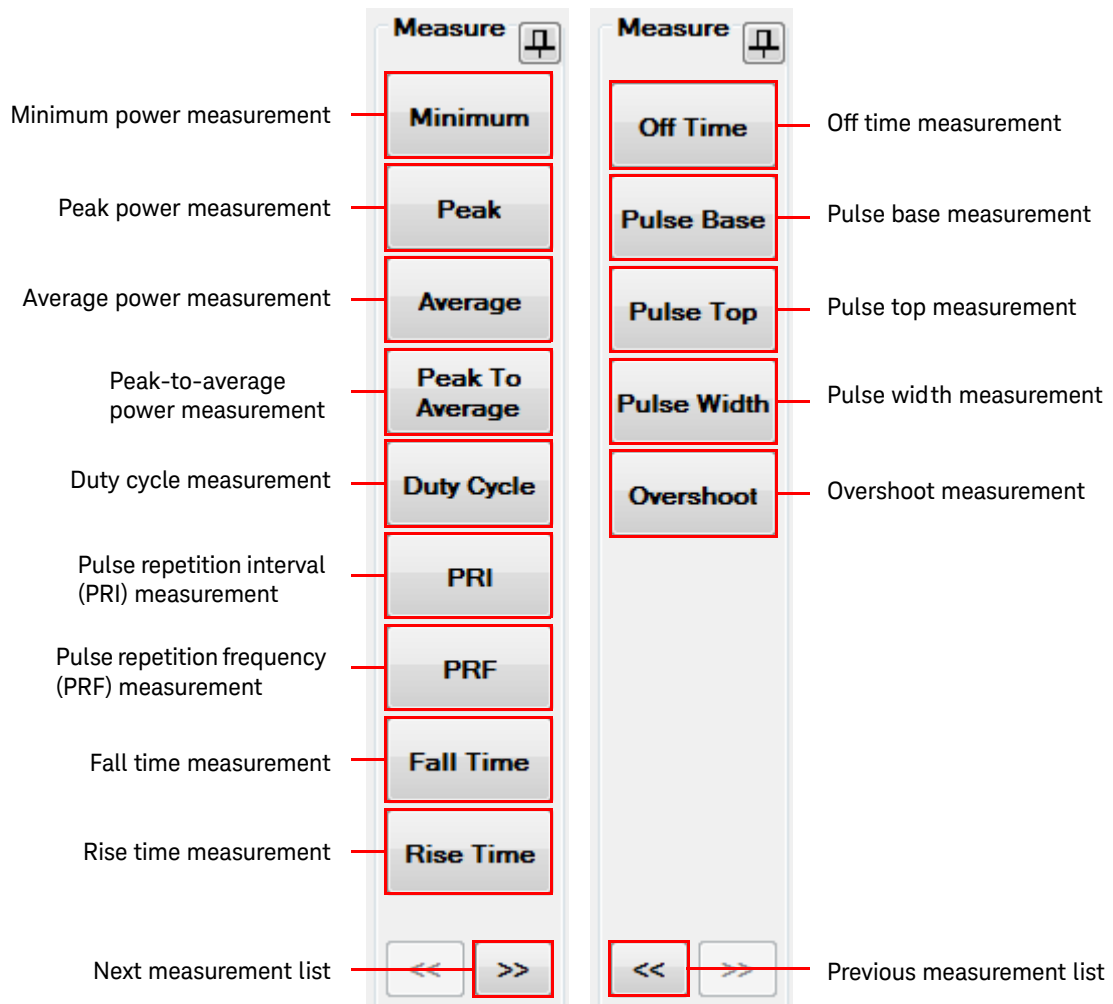

Figure 2-104 Measure functions menu on the graphical interface
The Measurement view displays the measurement results for different measurement functions. You can select the desired measurement functions to measure from the Measure menu in the graphical interface as shown in Figure 2-104. You can also select the measurement functions from the **Measure** menu on the toolbar.
- 1 To display the measurement results, select the measurement functions from the Measure menu on the graphical interface to measure as shown in Figure 2-104.